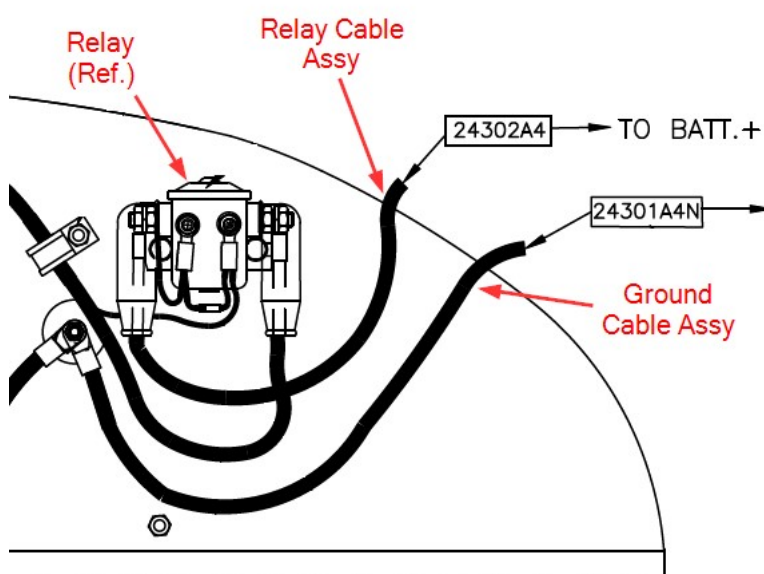

Figure 2. Firewall, Looking Aft
7. Replace the existing battery relay cable (24302A4) and battery ground cable (24301A4N) with the new ones (items 5 and 6). Refer to Figure 2.